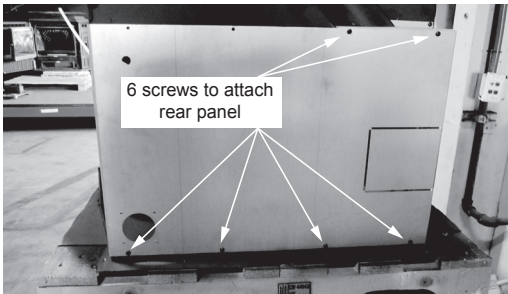

Figure 21.2
5. Install the Rear Panel using six screws (**Figure 21.2**).